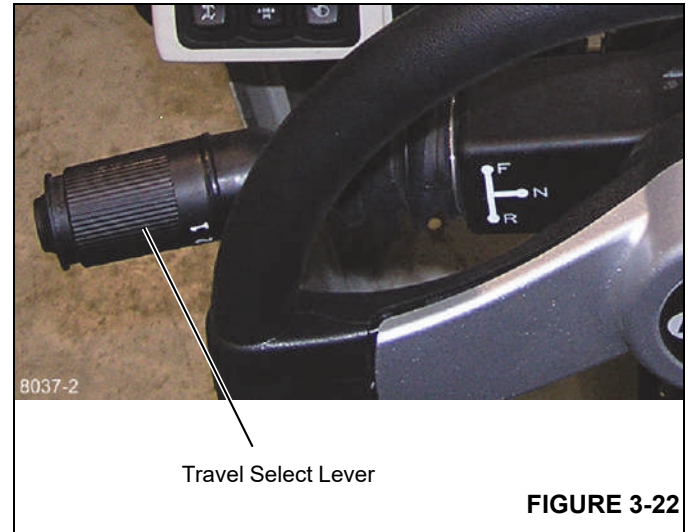

FIGURE 3-22
4. Place the travel select lever (Figure 3-22) in the neutral (N) position.